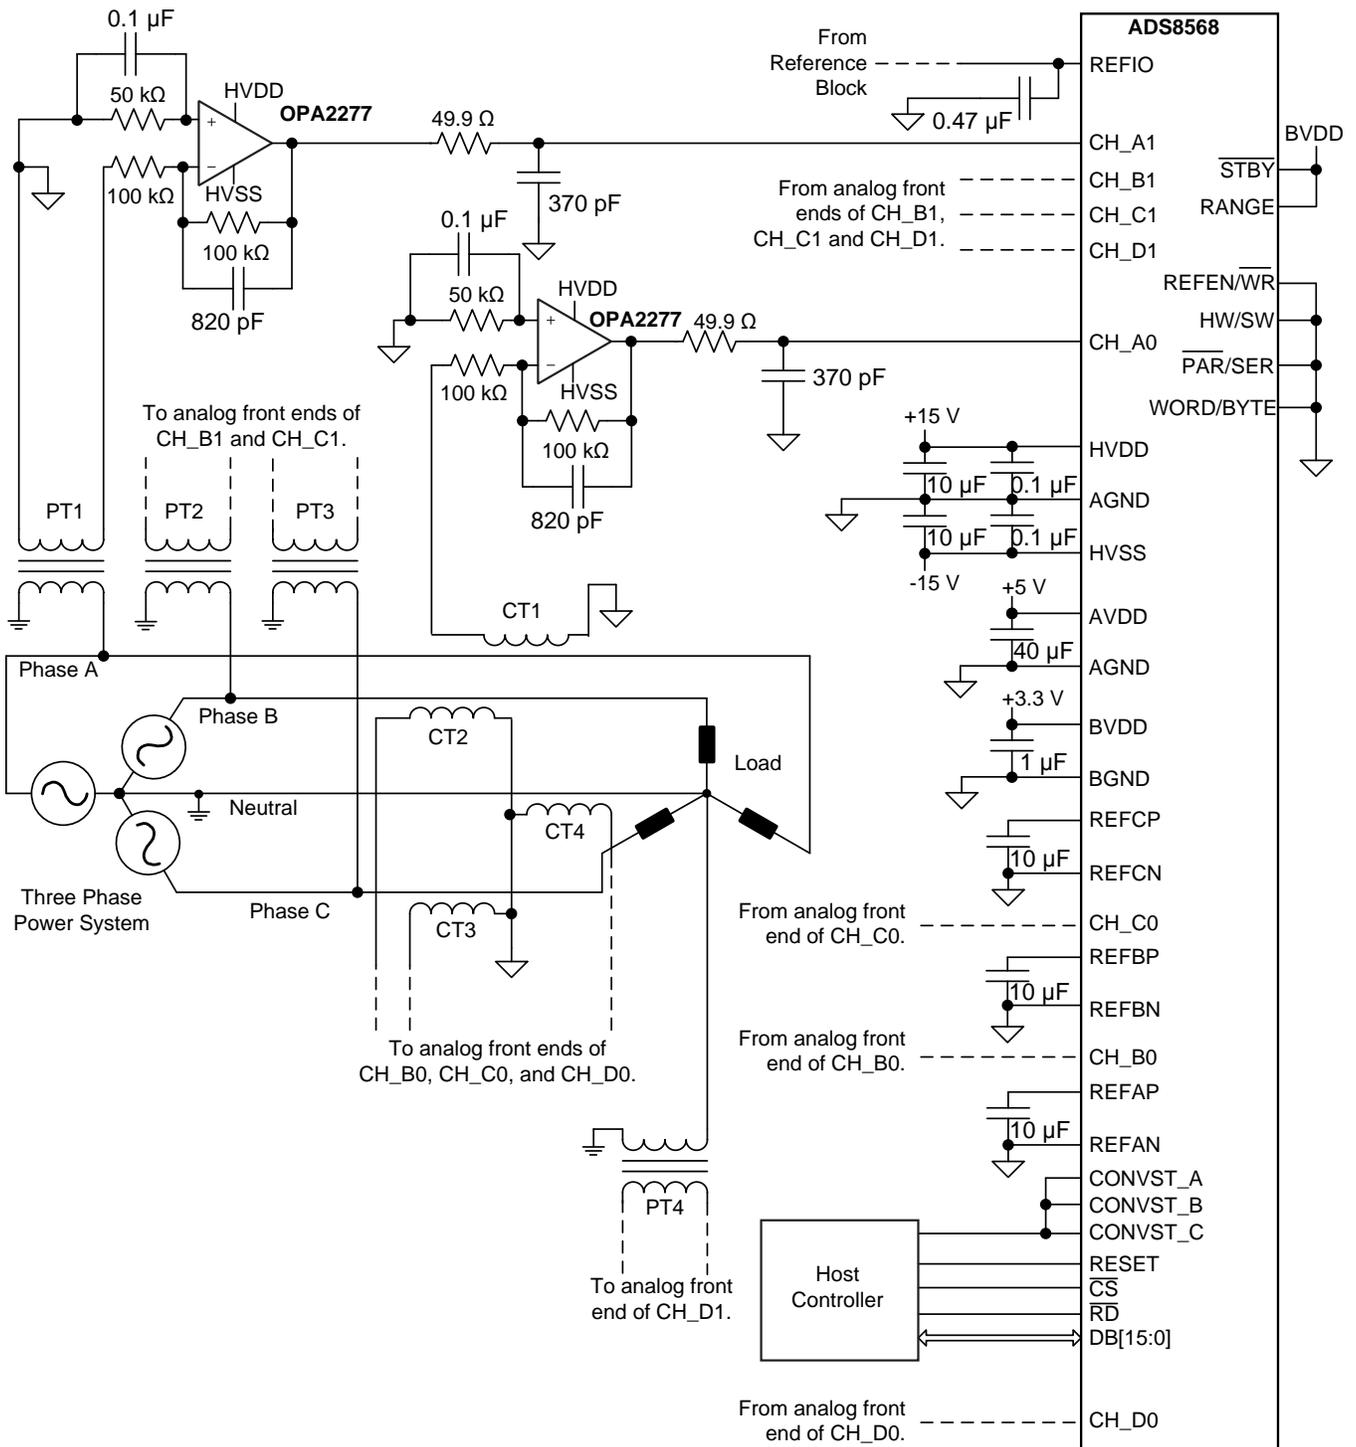

Figure 45. Simultaneous Acquisition of Voltage and Current in a 3-Phase Power System
The accurate measurement of electrical variables in a power grid is extremely critical because this measurement helps determine the operating status and running quality of the grid. Such accurate measurements also help diagnose problems with the power network, thereby enabling prompt solutions and minimizing down time. The key electrical variables measured in 3-phase power systems are the three line voltages, the neutral voltage at the load, the three line currents, and the neutral return current; see Figure 45. These variables enable metrology and power automation systems to determine the amplitude, frequency, and phase information in order to perform harmonic analysis, power factor calculations, and power quality assessment, among others.
- Output range of the potential transformers (elements labeled PT1, PT2, and PT3 in Figure 45)
- Output range of the current transformers (elements labeled CT1, CT2, and CT3 in Figure 45)
The potential transformers and current transformers used in the system depicted in Figure 45 provide the eight inputs required. These transformers have a ± 10 -V output range. Although the PT and CT elements provide isolation from the power system, the value of R_{IN} is selected as 100 k Ω in order to provide an additional, high-impedance safety element in the current path leading up to the input of the ADC. Moreover, selecting a low-frequency gain of -1 V/V (as shown in Equation 5) provides a ± 10 -V output that can be fed into the ADS8568; therefore, the value of R_F is selected as 100 k Ω too.
The primary goal of the acquisition system depicted in Figure 45 is to measure up to 20 harmonics in a 60-Hz power network. With this goal in mind, the analog front-end must have sufficient bandwidth to measure signals up to 1260 Hz as shown in Equation 6.